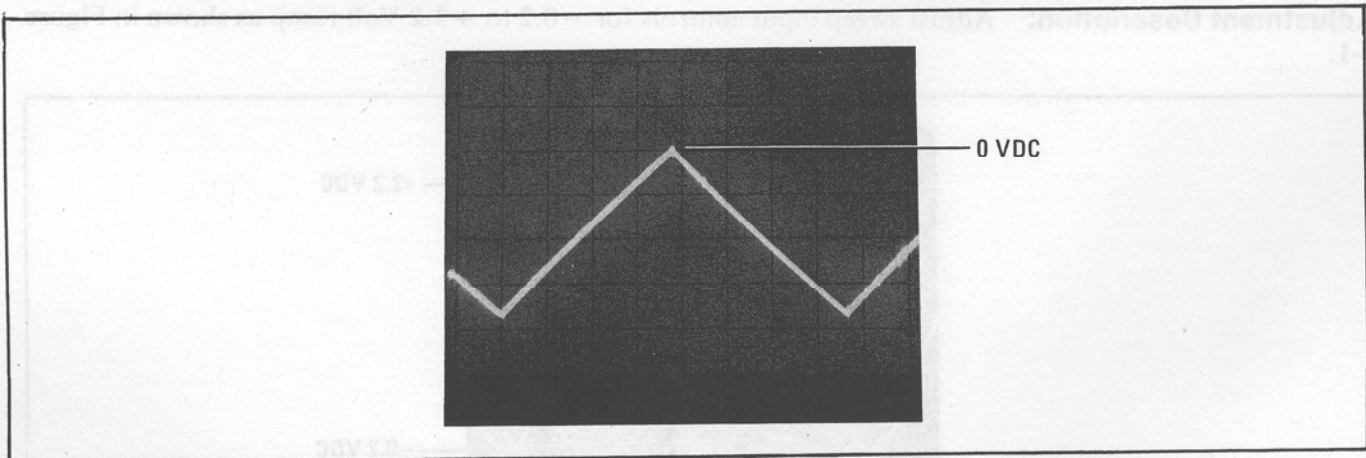

Figure 5-3. Triangle Wave Generator Waveform at A2TP4 Showing Correct Offset
**Adjustment Description:** Adjust "B" so the top peak of the triangle waveform just starts to flatten, then back up the control just until the top of the waveform is a sharp peak again as shown in Figure 5-3.